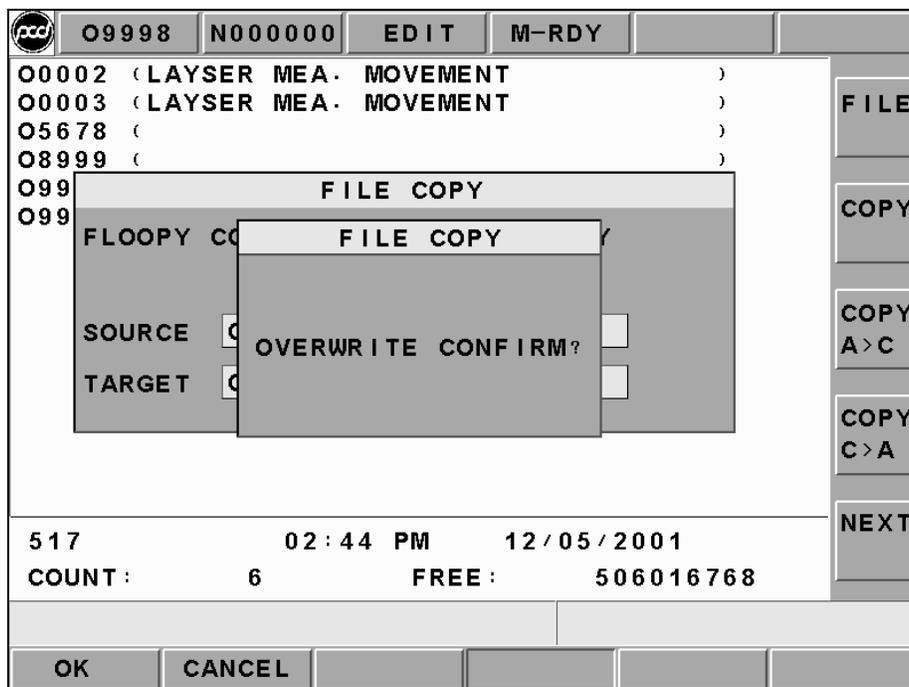

Figure 2.5-14 File Overwrite Confirmation Screen
3. If there is the same file name in the destination drive, the system will ask users to overwrite the already existed file. Pressing confirm button to overwrite the file, like Figure 2.5-14.